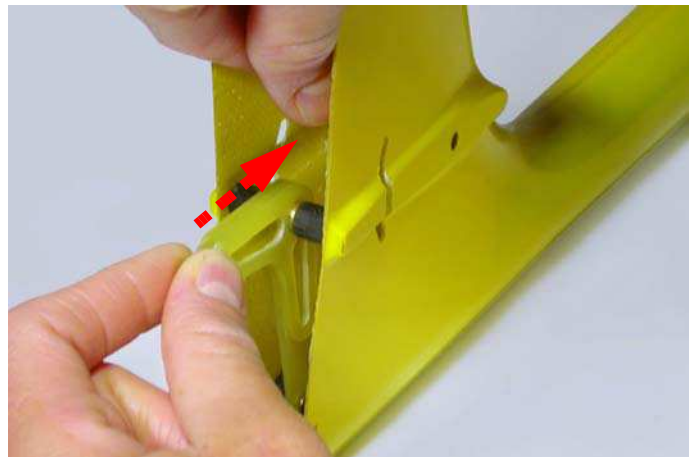

Fig.19: Insert the group.
- using the fingers, keep the fin walls open, as shown in figure 19, and insert the pushrod group into the fuselage;